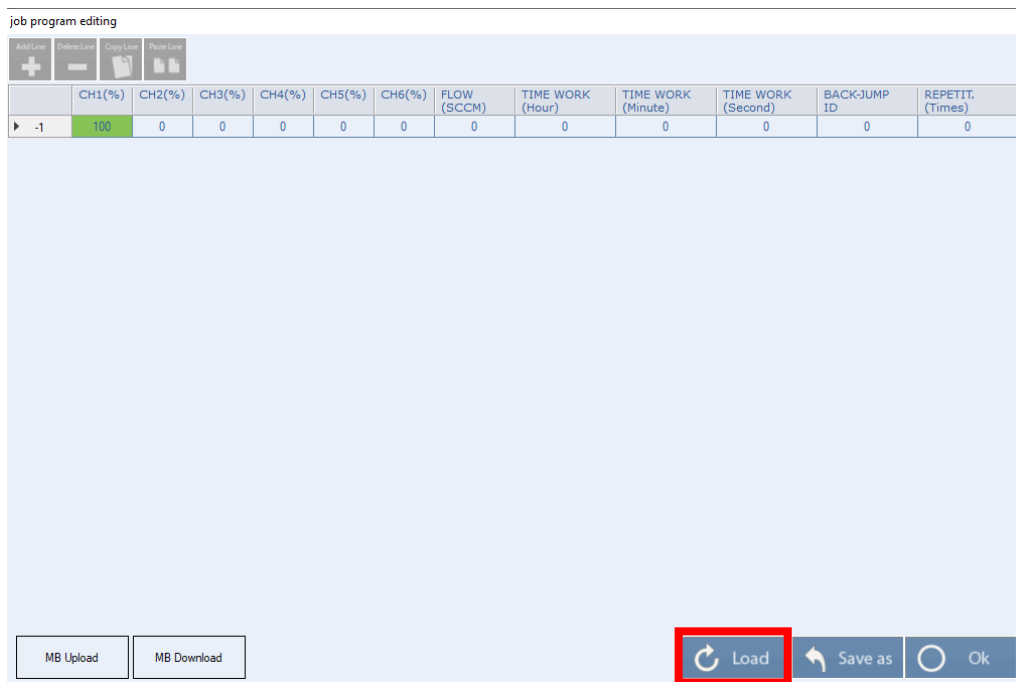

Figure 5-34
4. If you have previously created your programs and you want to recall it, click on the button “**Load**”. Select the folder you have created to save your program, double click on your desired program and open it. (Figure 5-34)